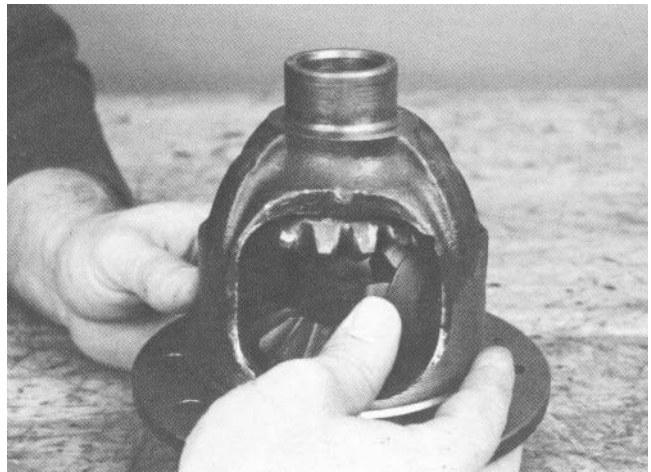

Figure 30
9. To remove the side gears and pinion mate gears, rotate the side gears. This will allow the pinion mate gears to turn to the opening of the case (Fig. 30). Remove the pinion mate gears and the spherical washers behind the gears.